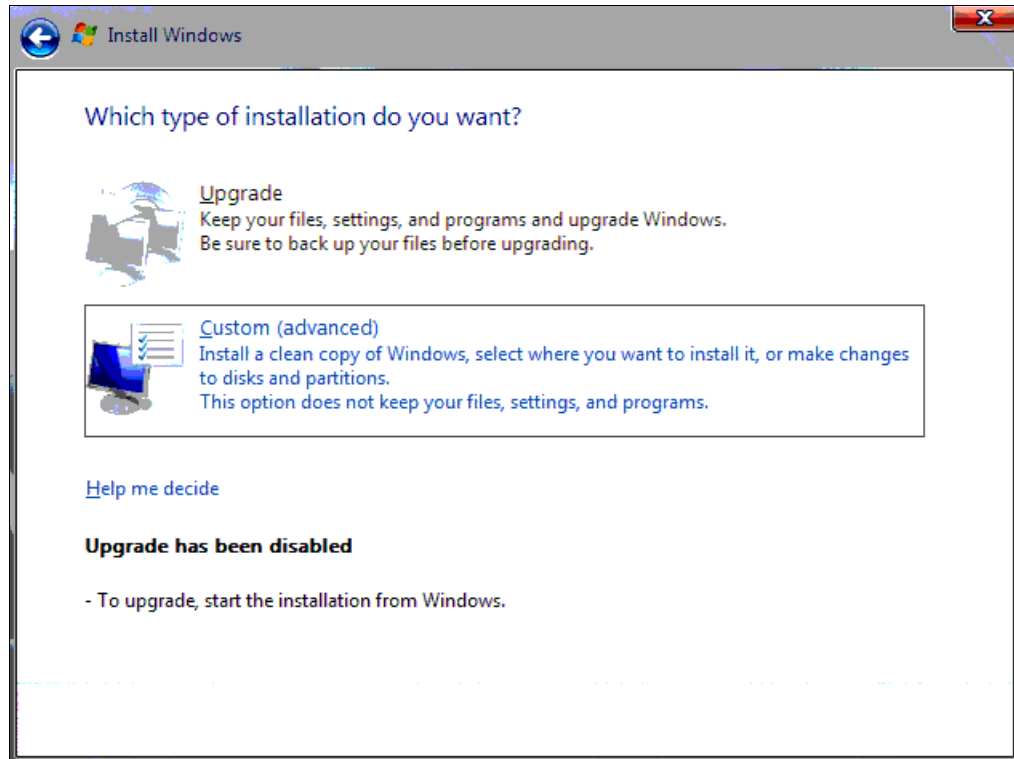

Figure 4-3 Selecting installation type
7. Select your installation type on the “Which type of installation do you want” panel (Figure 4-3). Click **Custom (advanced)**.